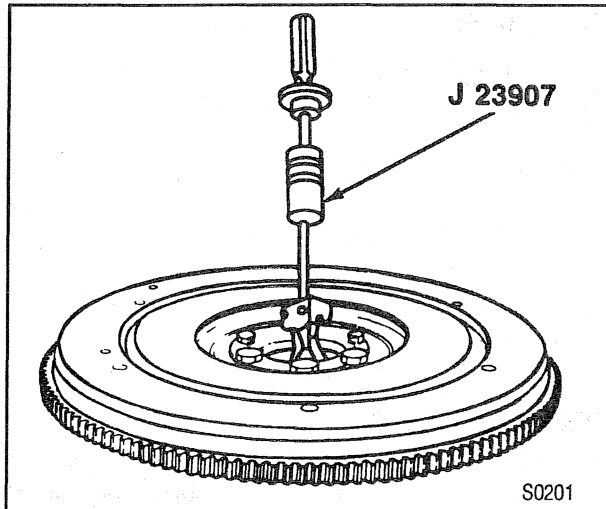

Figure 6—Pilot Bearing Removal
14. Pilot bearing if it is worn or damaged. Use J 23907 or J 38149 as needed (figure 6).